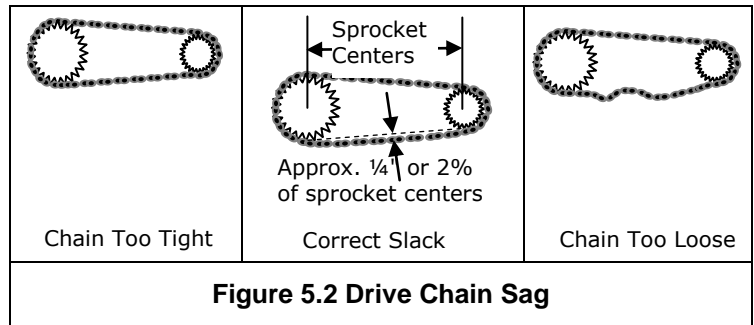

Figure 5.2 Drive Chain Sag
- Chain should have sag on the slack side per Figure 5.2. Measure the sag half way between the two sprockets.